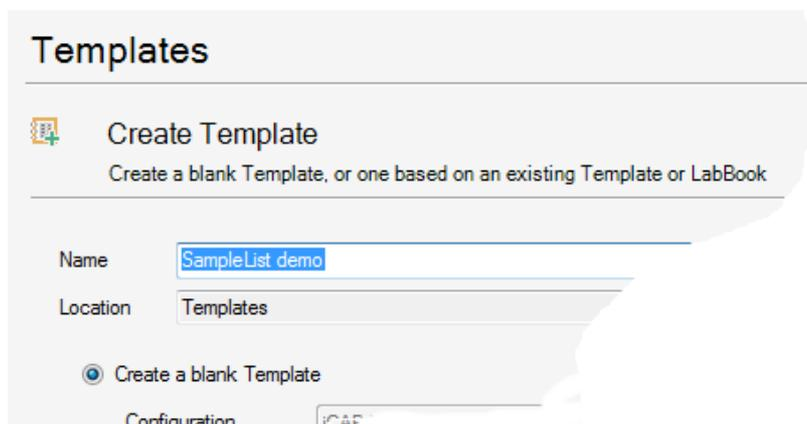

Figure 4-42. Typing the Name for a Template
1. On the Templates page, type a **Name** for the Template and select a **Location**, see Figure 4-42.